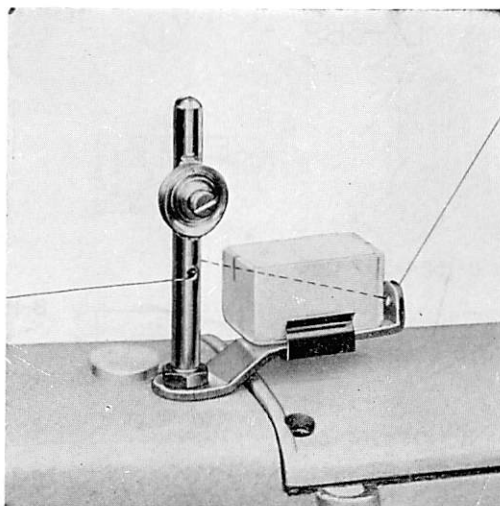

Fig. 20
When some synthetic thread is to be used for some purpose, attach an Eslen case ② on top of the thread guide plate ①, pass the thread between the 2 sheets of felt ③ and pass it through the thread hole ④ of the thread guide bar. When you do this, do not clamp the synthetic thread on the thread tension disc ⑤ which is on the upper part of the thread guide bar. (Fig. 20)